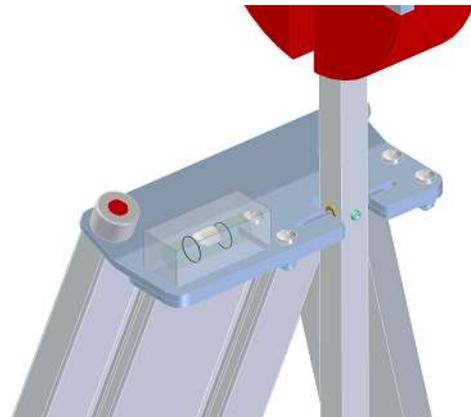

Fig. 2: Bearing plate with pendulum rod suspended
- Grip the pendulum with both hands and carefully suspend it from the bearing plate (see Fig. 2).